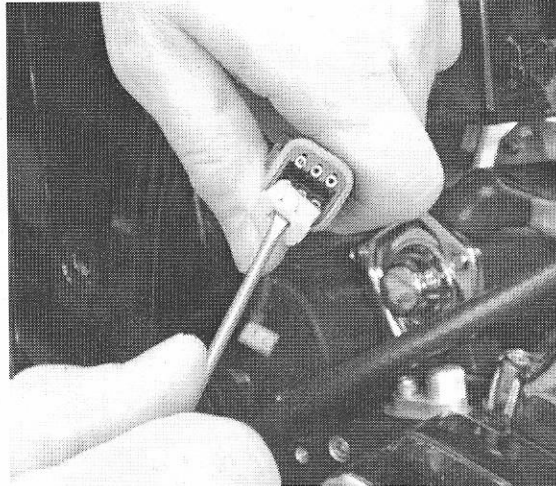

Figure 2—Connector Wedge Lock Removal
- 9. Insert a small, thin-blade screwdriver between the orange face and the black housing of the connector, and pry out gently. The outer wedge lock should disengage from the housing. See Figure 2.